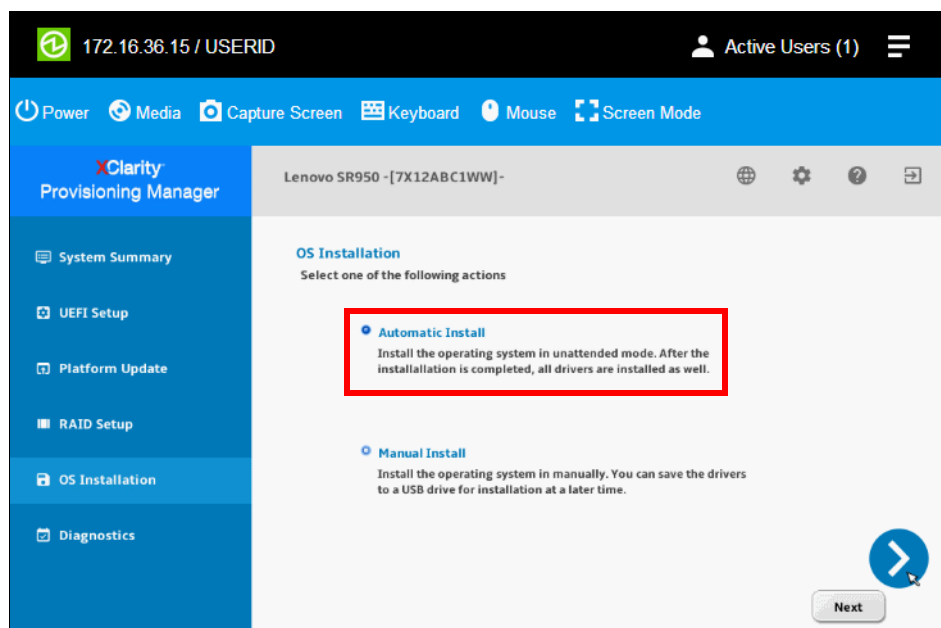

Figure 6-14 Automatic OS installation selection with LXPM
1. From the LXPM interface, click the **OS Installation** option from the left hand menu, as shown in Figure 6-14.